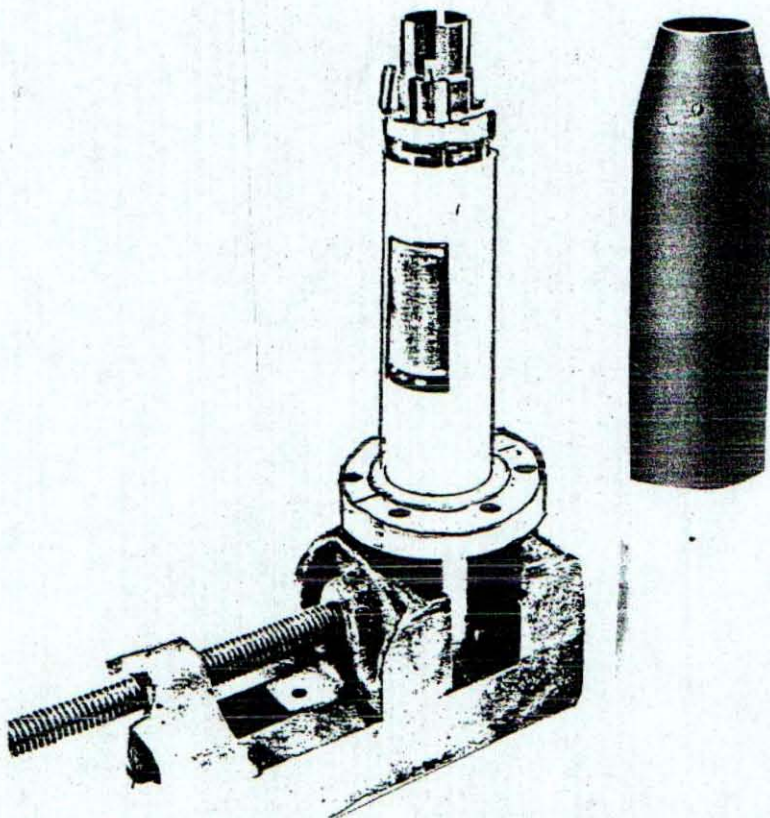

Figure 3. Removal of cone.
2. Remove the shield by removing screw on cone, sliding it upward (Figure 3).
2. Remove the shield by removing screw on cone, sliding it upward. (Fig. 3)